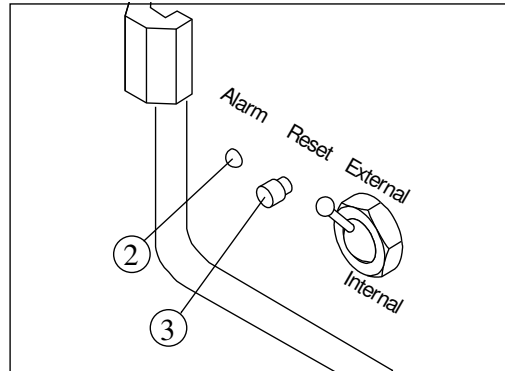

Figure 5.3.: TCU interlock.
1. set the switch (5) to **external**
The built-in TCU interlock is activated when a fault occurs within the TCU controller, e.g. prompt temperature rise. The interlock is by default an NC (Normally Close) relay contact and may be reset by pressing the reset button (3) shown in figure 5.3.
4. Press the RESET button (3) on the TCU rear panel (see figure 5.3).